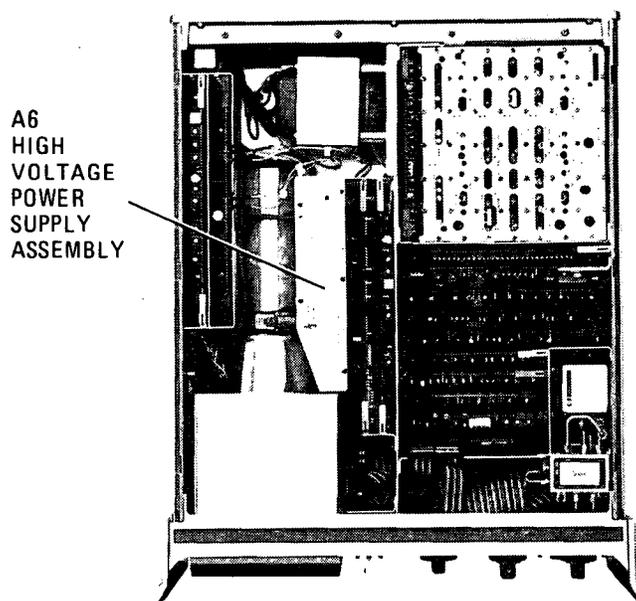

Figure 5-4. High Voltage Power Supply and Oscillator Driver Adjustment Locations
6. Adjust A6R4 HV (Figure 5-4) for a reading equal to calibration factor (calculated in step 4c), times voltage recorded in step 2.